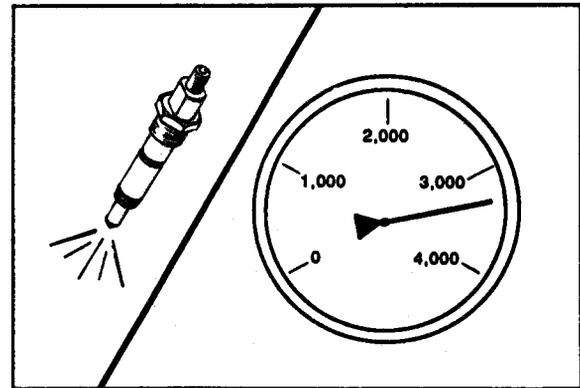

Figure 7-14
3. Read pressure indicated when spray begins. Spray should start between 3,160 to 3,307 psi (21,788 to 22,802 kPa) (Figure 7-14).